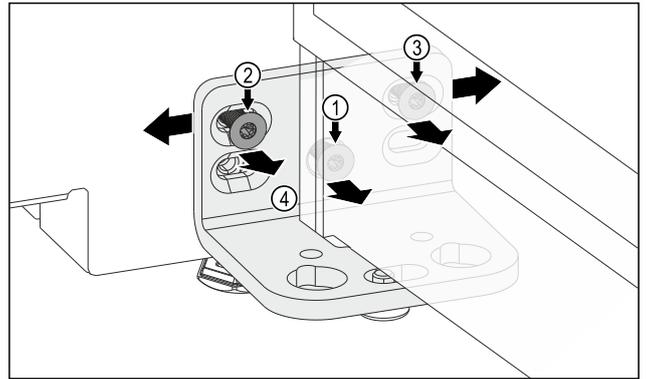

Fig. 12
- ▶ Remove the screw Fig. 12 (1).
- ▶ Tighten screw Fig. 12 (2) and loosen screw Fig. 12 (3). You will need a short angled screwdriver for the screw Fig. 12 (3).
- ▶ Move the door to the left with the hinge bracket Fig. 12 (4).
- ▶ Move the door to the right with the hinge bracket Fig. 12 (4).
- ▶ The door has reached its end position: Tighten screw Fig. 12 (2) and screw Fig. 12 (3).
- ▶ The screw Fig. 12 (1) is no longer needed.